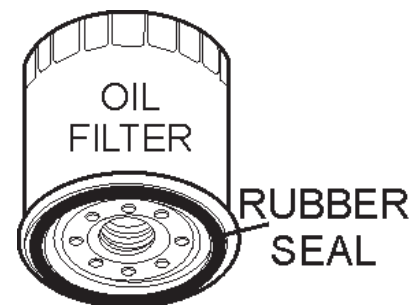

**Figure 30. Draining Engine Oil**
1. Drain the engine oil when the oil is warm as shown in (Figure 30).